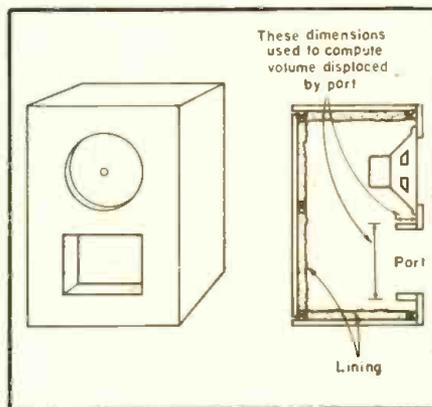

Fig. 4. Reflexed cabinet appearance, showing measurements to compute port displacement.
follows: the long side of the port may be made approximately equal to the diameter of the speaker cutout; this is economical in space and balances the appearance. The diameter of the speaker opening (and one side of the port rectangle) is $10\frac{1}{2}$ in. The other side of the port opening is then $85/10\frac{1}{2} = 8.1$ in., or approximately $8\frac{1}{8}$ in. (Great accuracy is not necessary, since the resonant frequency varies as the square root of the volumes, areas, etc., [See Eq. (1)]. Allowing 3 in. edge clearance and 2 in. between the speaker and port, the inside dimensions of the front will be $(3 + 8\frac{1}{8} + 2 + 12 + 3) = 28\frac{1}{8}$ in. long by $(3 + 12 + 3) = 18$ in. wide (speaker diameter is 12 in.). The frontal area is (18) $(28\frac{1}{8}) = 506$ sq. in. and the depth, then, must be $8555/506 = 16.9$ in. inside. Allowing $1\frac{1}{2}$ in. for the wall thickness including lining, the outside dimensions become $31\frac{1}{8} \times 21 \times 19.9$ inches. Suppose, now, that the front dimensions are satisfactory but the depth is too great. The port length L may be arbitrarily increased, say to 4 in. The volume, Eq. (2), now becomes 6639 cu. in. net; adding 200 cu. in. for the speaker and 289 cu. in. for that portion of the port tube projecting into the enclosure, measured as shown in Fig. 4, the gross internal volume equals 7128 cu. in. The inside depth, then, is $7128/506 = 14.1$ in. or 17.1 in. outside.